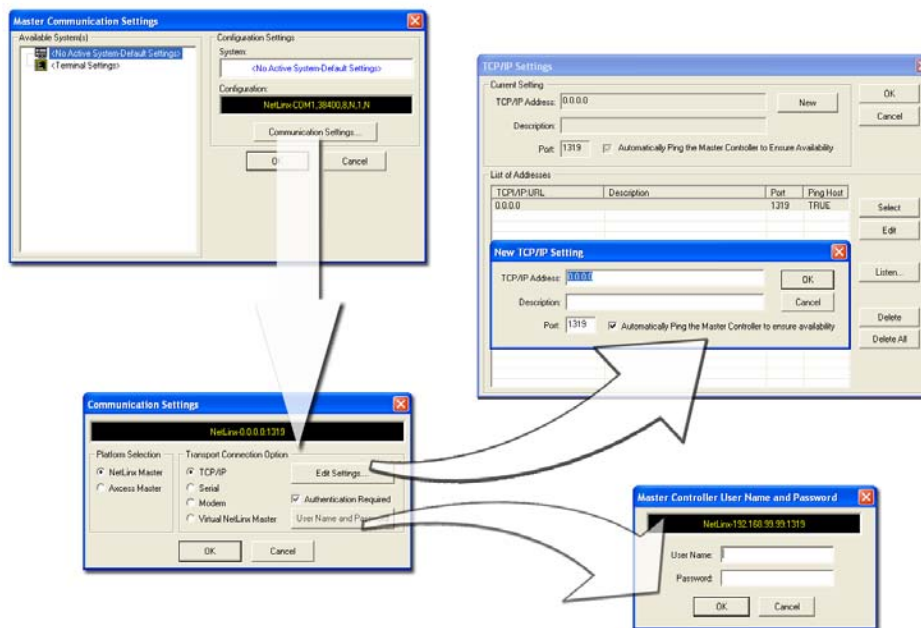

FIG. 80 Assigning Master Communication Settings and TCP/IP Settings
3. Select **Settings > Master Communication Settings** from the Main menu to open the Master Communication Settings dialog (FIG. 80).
7. Click the **Edit Settings** button (*on the Communications Settings dialog*) to open the TCP/IP Settings dialog (FIG. 80). This dialog contains a series of previously entered IP Address/URLs and their associated names, all of which are stored within Studio and are user-editable.